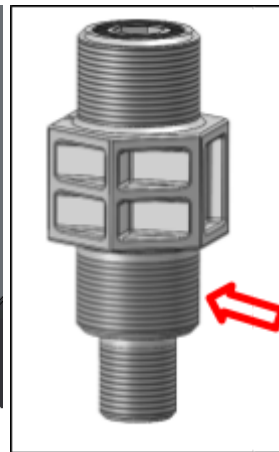

Figure 47.
8. Applying Teflon tape to the injector: Wrap a few turns of Teflon tape around the injector's threads. This ensures a watertight connection. See Figure 47.